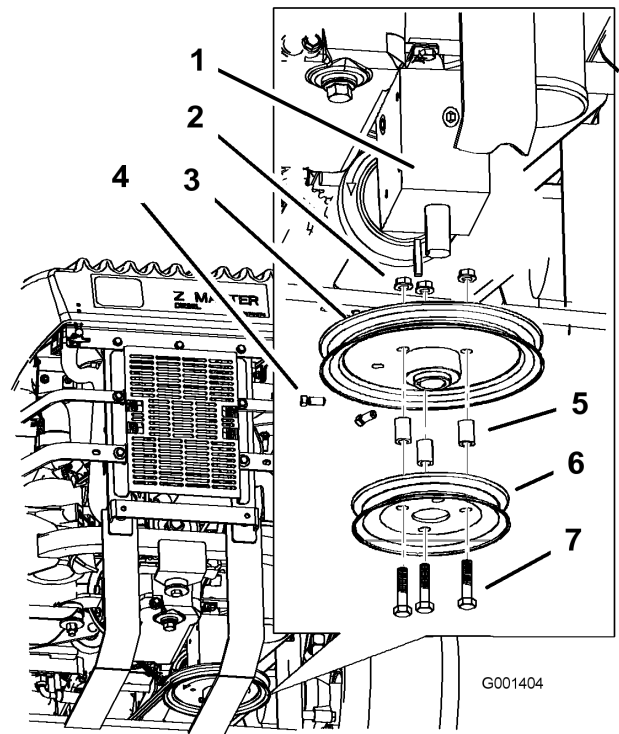

Figure 14
1. Remove the mower belt from the gearbox pulley assembly (Figure 14).
3. Install the bagger drive pulley to the gearbox pulley with 3 bolts (3/8 x 1-3/4 inches), 3 spacers, and 3 flange nuts (3/8 inch) (Figure 14).
4. Install the gearbox pulley and bagger drive pulley to the gearbox with 2 set screws and a square key (Figure 14). The pulley hub needs to be flush with the end of the gearbox shaft.
5. Install the mower belt back onto the upper gearbox pulley (Figure 14).